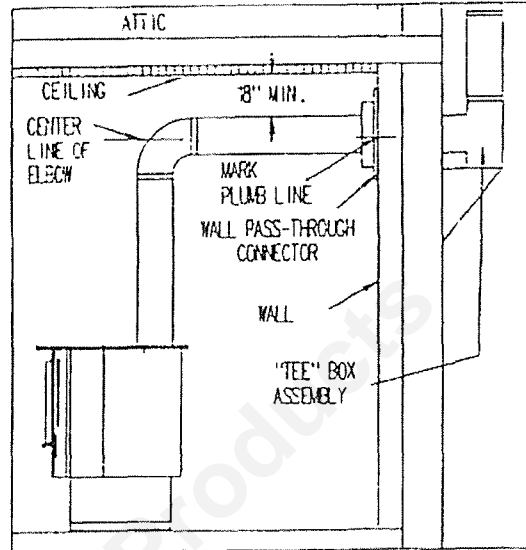

FIGURE 17 Flue Exit into "Tee" box assembly
1. Mark the plumb line on the wall directly behind the center of the heater. (See Figure 17)
3. Measure up so there will be at least 1/4" rise per foot of horizontal connector pipe, maintaining clearances to ceiling as noted in Figure 17. This will give you the center of the hole for the chimney penetration.
6. Using the screws and pipe mounting clips provided in the free-standing kit, secure the pipe to the heater (See Figure 17). The optional New Buck Corp. Chimney Connector may also be used instead of the pipe mounting clips if desired.